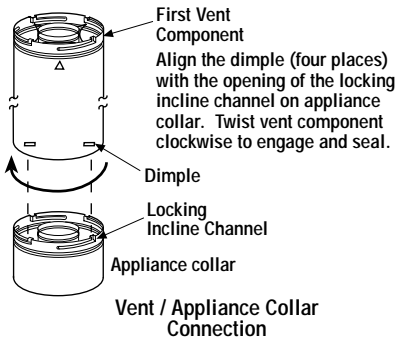

Figure 18
B. Attach vent components to appliance - Secure Vent SV4.5 direct vent system components are unitized concentric pipe components featuring positive twist lock connections (see **Figure 18**).
To attach a vent component to the appliance collar, align the dimpled end over the collar, adjusting the radial alignment until the four locking dimples are aligned with the inlet of the four inclined channels on the collar (**refer to Figure 18**). Push the vent component against the collar until it fully engages, then twist the component clockwise, running the dimples down and along the incline channels until they seat at the end of the channels. The unitized design of the **Secure Vent** components will engage and seal both the inner and outer pipe without the need for sealant or screws. If desired, a #6 x 1/2" screw may be used at the joint, but is not required as the pipe will securely lock when twisted.